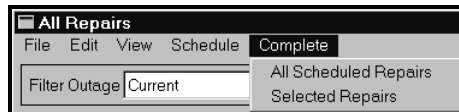

Figure 3-129. All Repairs > Complete Menu
There are two (2) choices on the Complete Menu shown in Figure 3-129. They are All Scheduled Repairs and Selected Repairs.